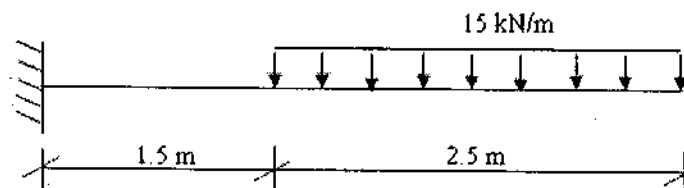

Figure 2
- b) Analyse the beam as shown in the figure 2 using Conjugate Beam method and hence find the maximum Slope and Deflection. Use $E = 200 \text{ GPa}$, $I = 4.5 \times 10^6 \text{ mm}^4$. Also, draw the deflected shape of the structure.